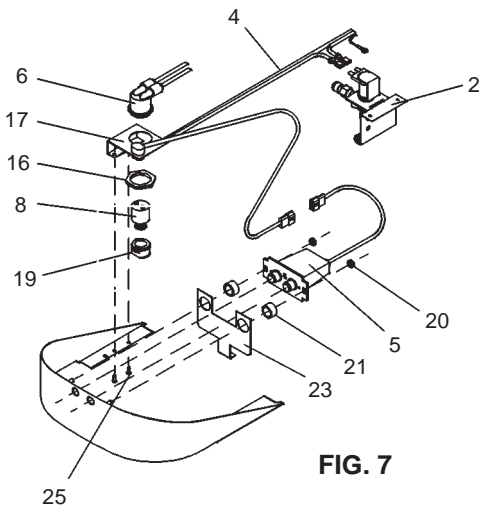

FIG. 7
11. Connect power cord of sensor to solenoid valve by running it thru the back panel and connecting it as shown in Fig. 7. Connectors may be connected to either terminal on solenoid valve. Attach ground wire to solenoid valve bracket with green ground screw.